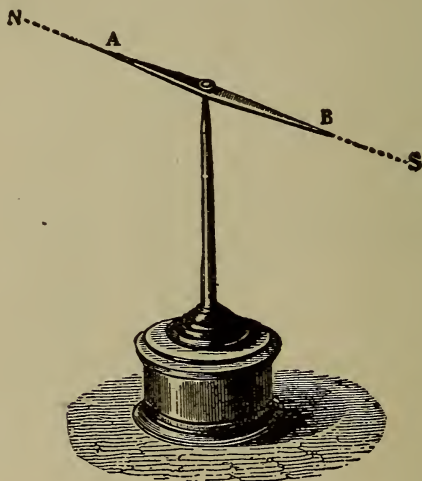
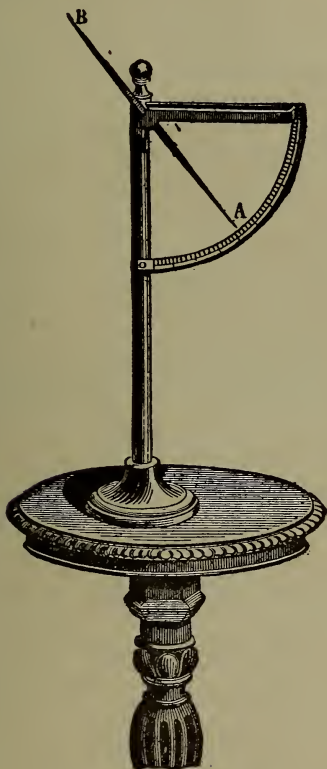

Fig. 69. Magnetic Needle.
Fig. 72. Dipping Needle.
*Answer.* It is a long slender magnet, as compared with its own width and thickness, fitted with a cap in the center so that it may be balanced on a pivot or hung from a thread. This allows it to turn freely. Fig. 69.
*Answer.* Near the equator of the earth a needle may be balanced and then magnetized, but in other places if the needle is balanced and then magnetized one end of the needle will dip. Fig. 69 shows this. If the needle is mounted so that it can turn with perfect freedom vertically as in Fig. 72 it will in Chicago incline from the horizontal line about  $70^{\circ}$ .